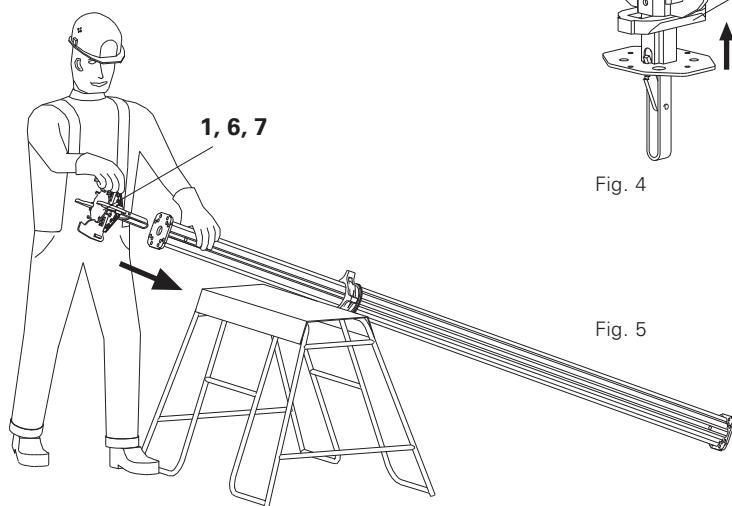

Fig. 5
4. Insert drophead (1), prophead (6) or combihead (7) into the prop. The self-locking coupling is secured automatically. (Fig. 5)